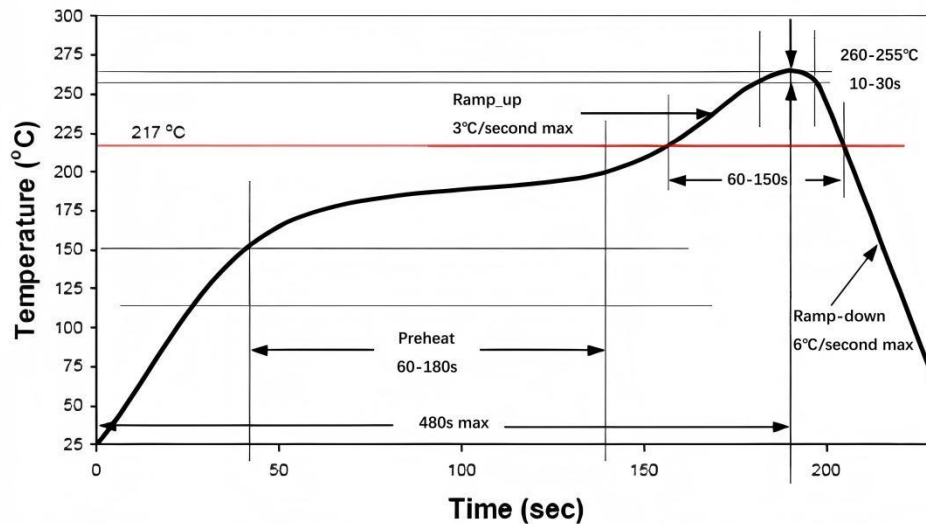

Fig.3 Reflow soldering temperature setting conditions
(1) Manual welding
(2) Reflow soldering (SMD terminal type)
- The recommended reflow oven temperature setting conditions are shown in Figure 3.